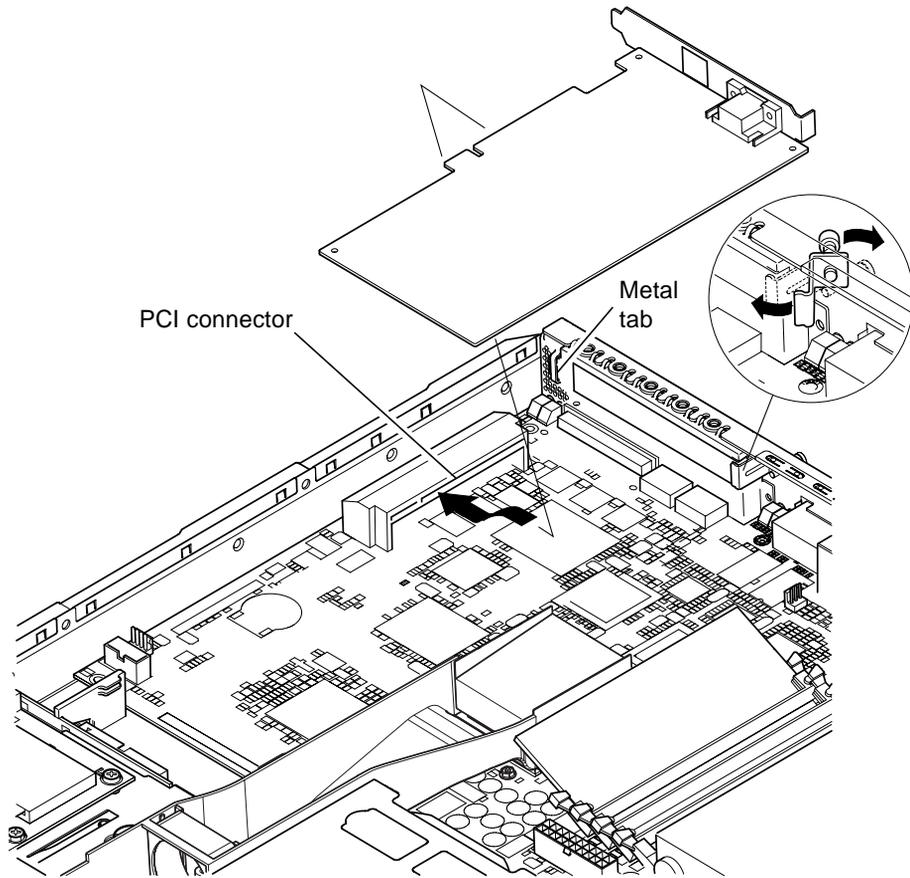

FIGURE 4-7 The Rotating Retention Bracket and the Position of a PCI Card
- 3. Loosen the captive screw holding the PCI slot’s retention bracket in place (see FIGURE 4-7).**
Rotate the retention bracket through 90 degrees (see FIGURE 4-7). This releases the filler panel in the PCI slot, enabling you to remove the filler panel. Remove it.
- 5. Insert the PCI card firmly into the PCI connector (see FIGURE 4-7) making sure that the PCI card’s bracket is correctly positioned against the rear of the chassis.**
The tapered end of the bracket must be inside the small metal tab designed for it on the chassis (see FIGURE 4-7).
7. Reposition and tighten the rotating retention bracket (see FIGURE 4-7) to secure the PCI card to the chassis.
2. **Loosen the captive screw that secures the rotating retention bracket (the screw and bracket are illustrated in FIGURE 4-7).**
Rotate the retention bracket through 90 degrees (see FIGURE 4-7).
6. **Replace the filler panel for the PCI slot (in the back panel of the chassis), and tighten the captive screw that secures the rotating retention bracket (see FIGURE 4-7).**